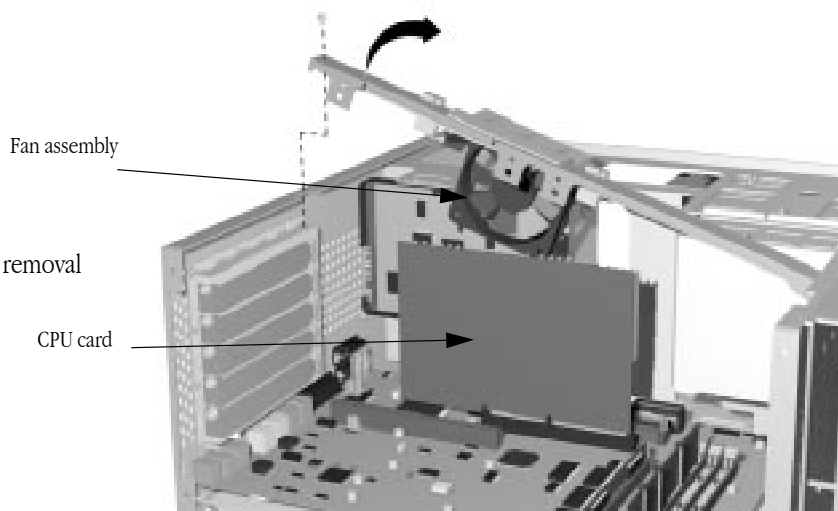

Figure 9: CPU removal
2. Lower the CPU card squarely into the slot so that the notch in the CPU card lines up with the notch in the slot. Slide the contacts straight into the slot and make sure the contacts are firmly seated. (see **Figure 9: CPU removal** on page 11). When properly seated, the contacts on the bottom should not be visible.